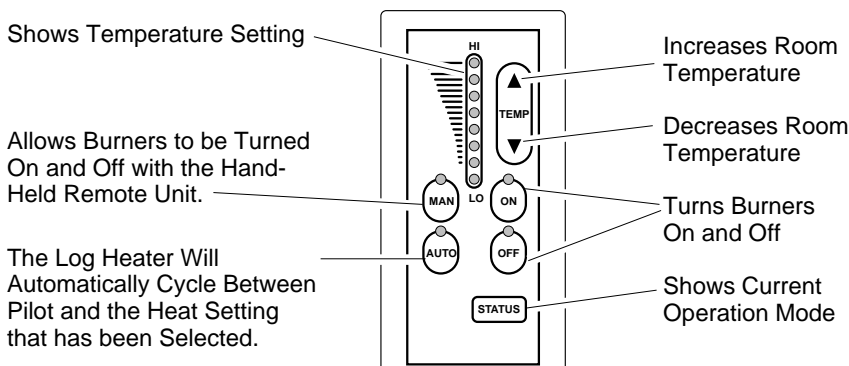

Figure 53 - Thermostat Hand-Held Remote Control Unit Selections (GHRCT only)
- 2b. Select the MAN (manual) or AUTO button on the hand-held remote control unit (see Figure 53).